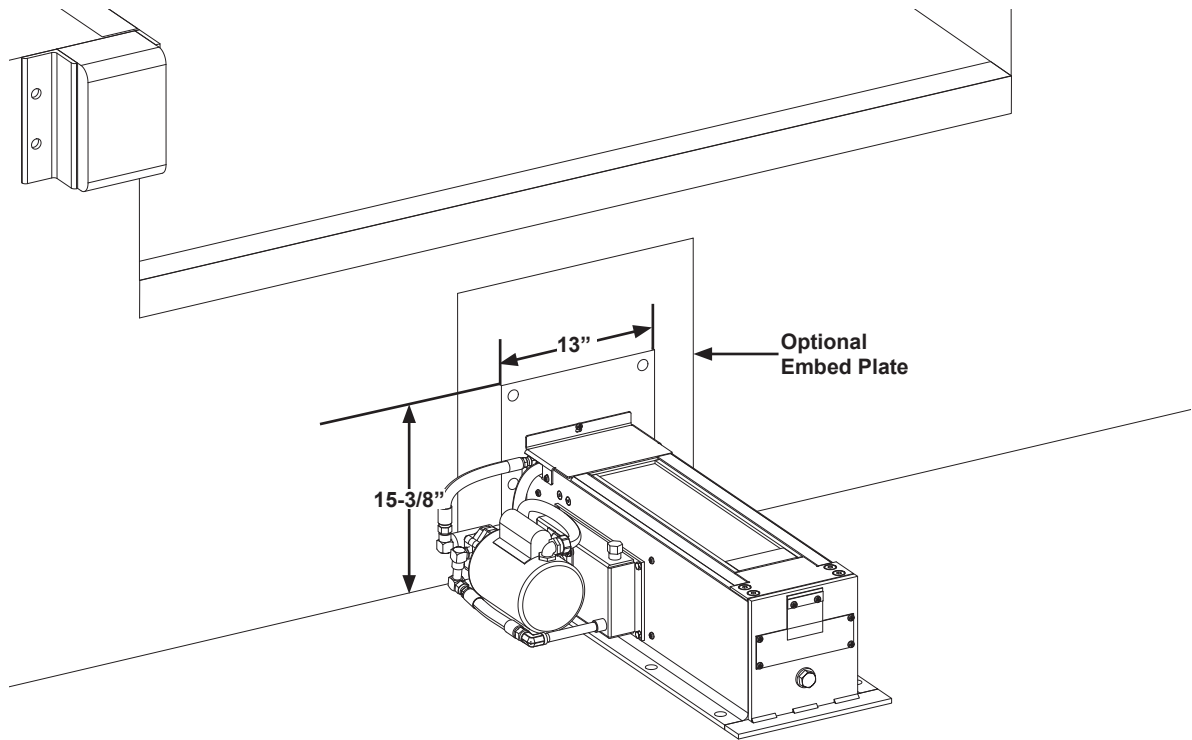

Figure 7
If optional embed plate is present, weld three sides of PowerHold back plate to the embed mounting plate with ten (10) 4" long, 1/4" fillet welds. See Figure 7.